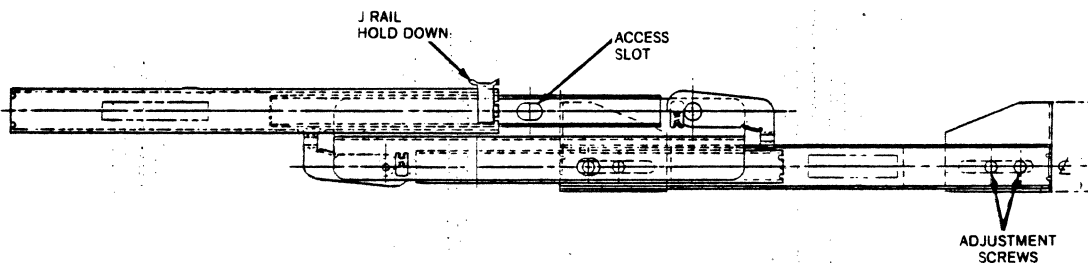

Figure 7-10. ACCURIDE Slide
- Loosen the two adjustment screws holding the back mounting bracket to each slide. See Figure 7-10.